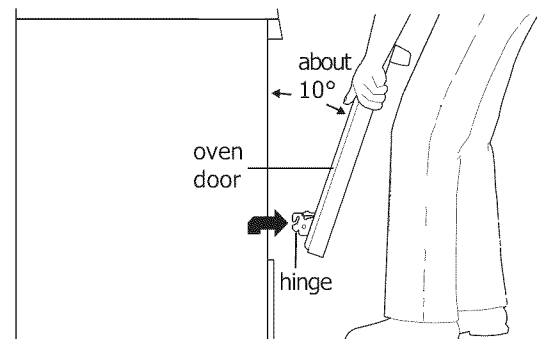
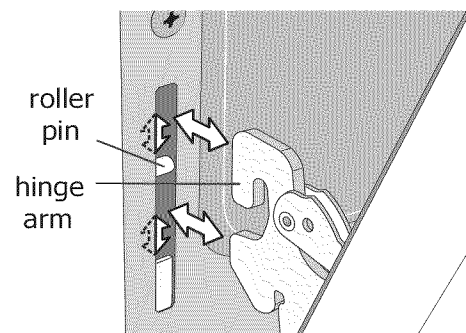

Figure 16: Holding door for removal
Figure 17: Location of hinge arm and roller pin
3. Firmly grasp both sides of oven door along the door sides. Do not use the oven door handle (See Figure 16).
5. Lift the oven door hinge arms over the roller pins located on each side of the oven frame (See Figure 16).
1. Firmly grasp both sides of oven door along the door sides. Do not use the oven door handle (See Figure 16).
2. Holding the oven door at the same angle as the removal position (See Figure 16), seat the hook of the hinge arm over the roller pins located on each side of the oven door frame (See Figure 17). The hook of the hinge arms must be fully seated onto the roller pins.